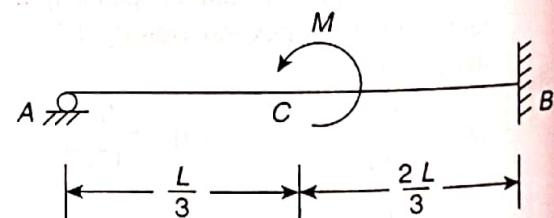

Figure 11.50
- A propped cantilever of length L is fixed at one end and roller supported at the other end. Cantilever is subjected to a couple M as shown in Fig. 11.50. Determine the reaction at prop and deflection at C, if EI is the flexural rigidity of cantilever.